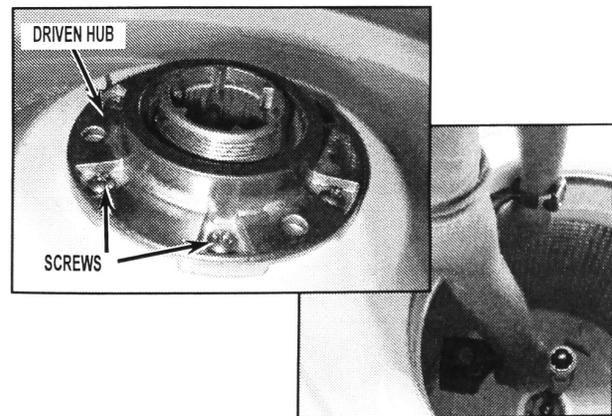

FIGURE 4
4. Remove six (6) screws from basket driven hub.
IMPORTANT: Remove the screws slowly if using a powered screwdriver. Hold up on basket while removing the last two (2) screws to avoid stripping out threads. See *Figure 4*.